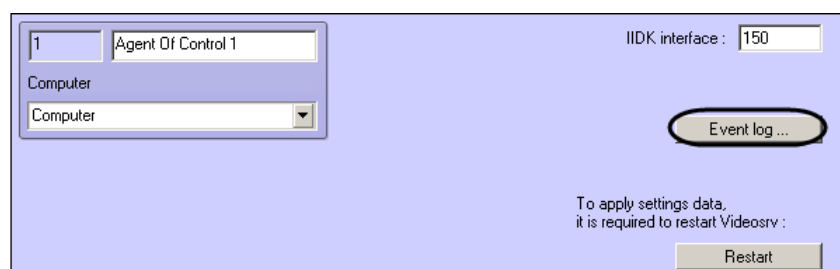

Fig. 4.2 – 1 Event log... button
1. Go to the configuration panel for an **Agent of Control** object (Fig. 4.2 – 1).
2. Click the **Event log...** button (see Fig. 4.2 – 1).